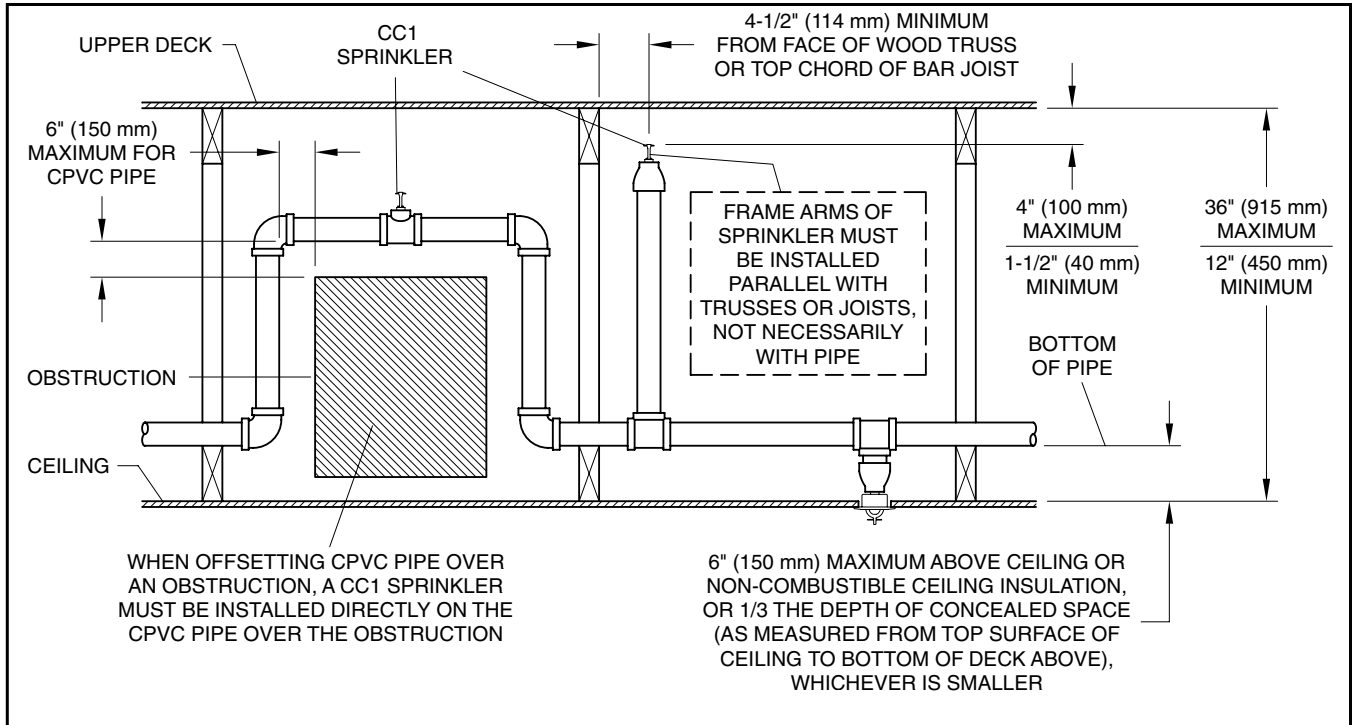
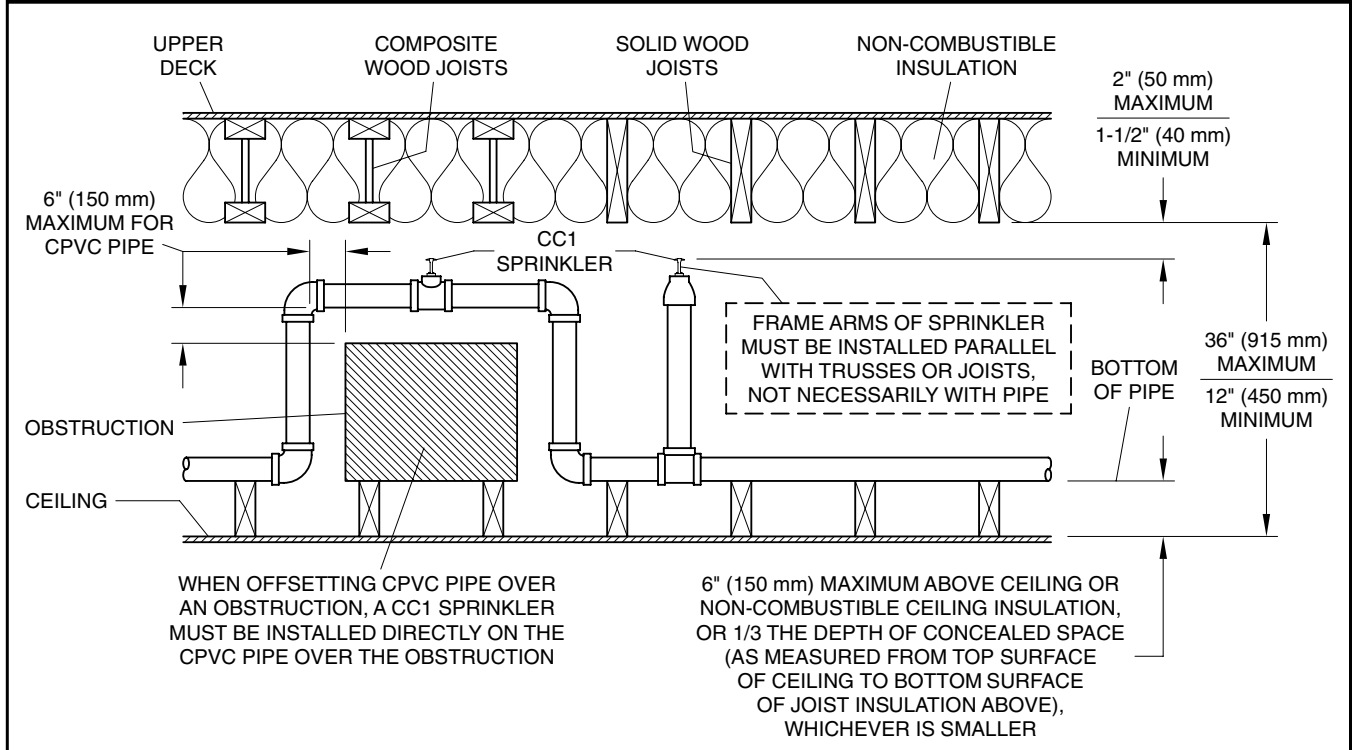

FIGURE 2
FIGURE 3
Design Criteria - CPVC Pipe (Fig. 2 & 3)
- Wood truss construction or bar joist construction (Fig. 2).
- Non-combustible insulation filled solid wood or composite wood joist construction (Fig. 3).
The area of the concealed space is not limited; however, for both Fig. 2 and Fig. 3, where CPVC pipe is being util-
1-1/2 to 4 inches (40 to 100 mm) below upper deck for wood truss construction or bar joist construction (Fig. 2).
1-1/2 to 2 inches (40 to 50 mm) below solid wood or composite wood joists (Fig. 3).
Only BlazeMaster CPVC product may be used in concealed spaces requiring automatic sprinklers, when used in conjunction with Model CC1 Sprinklers. In order to use the BlazeMaster CPVC product for wood truss or bar joist construction, the horizontal run of pipe must be a maximum of 6 inches (150 mm) above the ceiling or non-combustible ceiling insulation, or 1/3 the depth of concealed space (as measured from the top surface of the ceiling to the bottom of the deck above), whichever is smaller (Fig. 2). For insulation filled solid wood or composite wood joist construction, the horizontal run of pipe must be a maximum of 6 inches (150 mm) above ceiling or non-combustible ceiling insulation, or 1/3 the depth of concealed space (as measured from the top surface of the ceiling to the bottom surface of the joist insulation above), whichever is smaller (Fig. 3). The CPVC piping can then be used to supply the Model CC1 Sprinklers, as well as the sprinklers below the ceiling. Unless modified by this Technical Data Sheet, all other guidelines of the "BlazeMaster — Installation Instructions & Technical Manual" must be met. When using 1 inch (DN25) or larger pipe, a hanger must be located at the truss nearest a sprig for purposes of restraint. If using 3/4 inch (DN19) piping, all sprigs over 12 inches (305 mm) must be laterally braced using methods described in the NFPA standards.
Where the CPVC must be offset up and over an obstruction and the pipe exceeds the allowed horizontal positioning requirements specified above as well as shown in Figure 2 and 3, additional Model CC1 Sprinklers are to be installed as shown in Figure 2 and 3 to protect the BlazeMaster CPVC product.
The CC1 Sprinklers are to be installed upright and with their frame arms (ref. Figure 2, 3, 4, 5, or 6 as applicable) parallel with the wood trusses, top chord of the bar joist, or wood joists, as opposed to being necessarily parallel with the pipe.